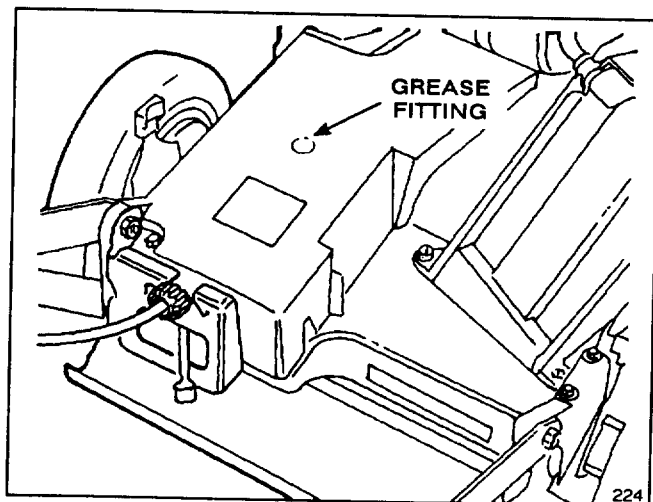

Figure 29
2. Install grease gun onto fitting thru belt cover opening (Fig. 29). Gently apply 1-2 pumps of grease.